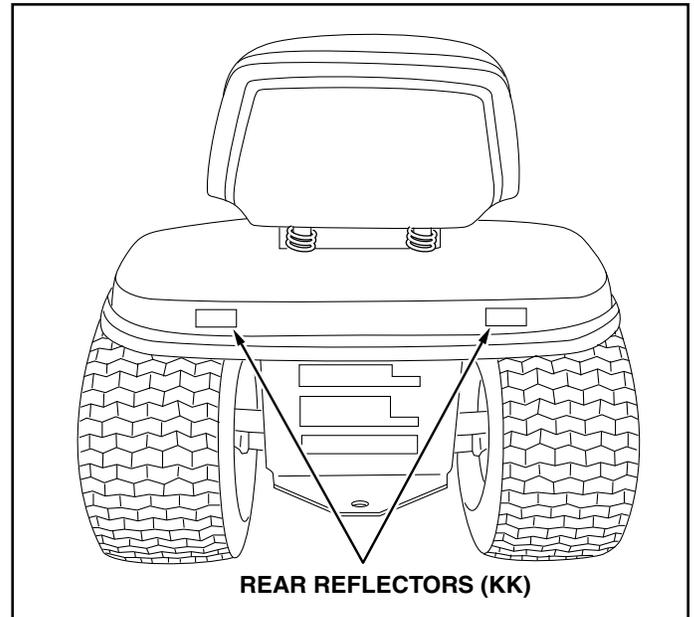

FIGURE 59
STEP 60: (SEE FIGURE 59)
- If your tractor is not equipped with rear reflectors, assemble the supplied rear reflectors (KK) to the rear fender. Place the reflectors as close to the bottom of the fender and as far apart as the shape of the fender will allow.